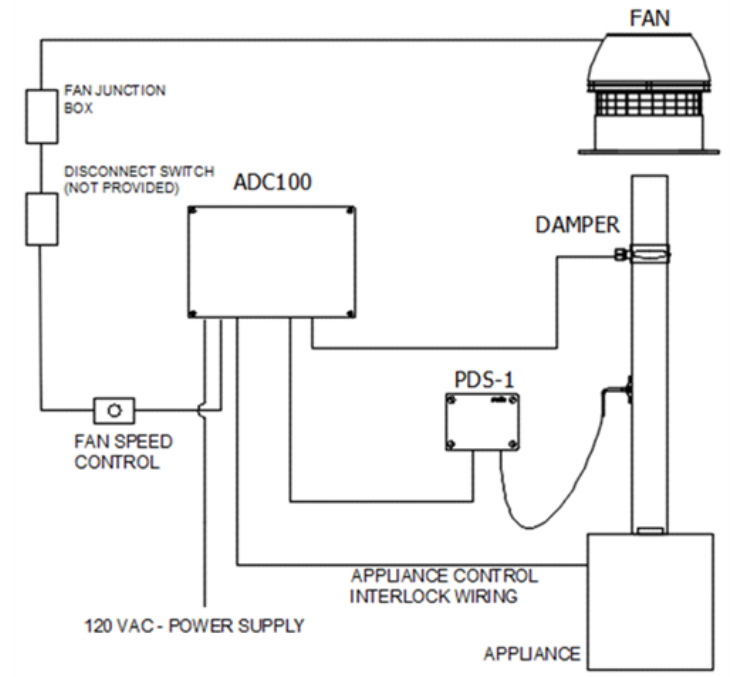
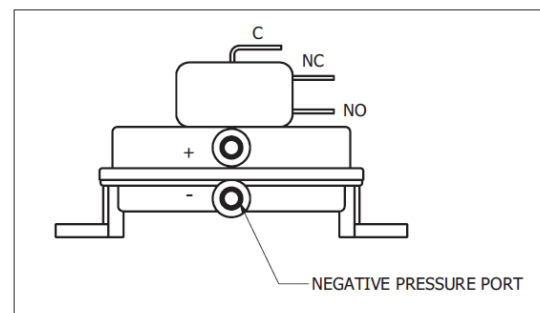

FIGURE 42
FIGURE 44
1. The ADC100 Control Unit must be installed indoors. As shown in **Figure 42**, the control will be wired directly to a 120V/1/60 VAC power supply. The control will also be connected to the fan, appliance, and damper.
2. The ADC100 control may be mounted directly to a wall. To mount, remove the cover and locate the (4) mounting holes. Using the hole-pattern shown below, mount the control using #6 screws.
4. A Proven Draft Switch (PDS) must be used with the ADC100 control as a system safety device. The PDS monitors the pressure inside the stack and signals the control to shut down the appliance if insufficient draft exists. A stack probe senses the pressure read by the PDS and is connected via silicone tubing. The silicone tubing supplied with the PDS should be connected to the NEGATIVE (-) port of the PDS. This is the bottom port on the switch. See **Figure 44**. The standard tube length is 6 feet. The distance can be extended up to 25 feet by using 1/4" rigid plastic or copper tubing as temperature allows (not supplied).